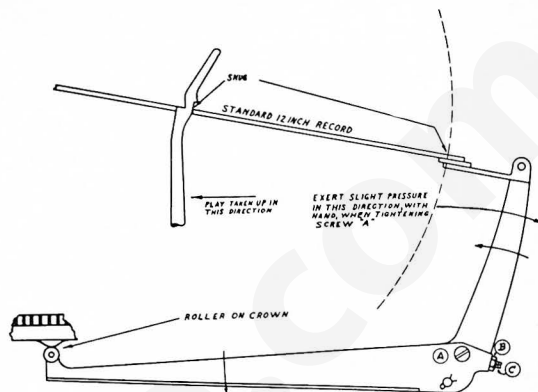

FIG. 4
1. Place 12" record on spindle and 12" shelf as shown in Figure 4. Start changer in cycle, and then stop the change cycle when the crown on the cam gear touches the roller on the shelf lever as shown in Figure 4.